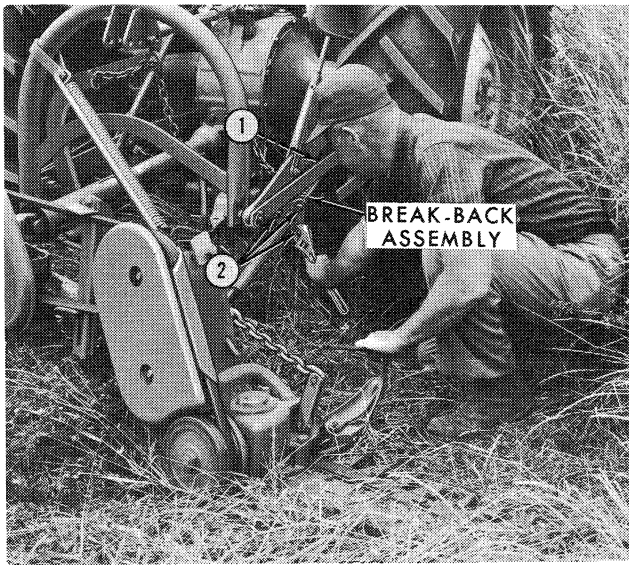

Figure 13
The spring-operated breakback, Figure 13, protects the cutter bar against damage when an obstruction is hit. To provide maximum protection to the cutter bar, the breakback allows the cutter bar to swing back approximately 45° and at the same time it auto-
Gradually and equally tighten the three adjusting nuts (2), Figure 13, evenly until the spring is compressed to 10-7/16" (factory adjustment). This adjustment should be satisfactory for all conditions. Tension may be increased slightly but should not be reduced below the 10-7/16" adjustment.